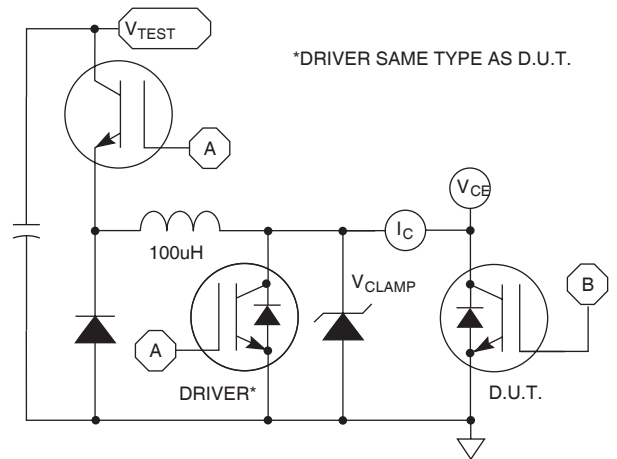

Figure 24, E_{ON1} Test Circuit
- ① Repetitive Rating: Pulse width limited by maximum junction temperature.
- ② For Combi devices, I_{oes} includes both IGBT and FRED leakages
- ③ See MIL-STD-750 Method 3471.
- ④ E_{on1} is the clamped inductive turn-on-energy of the IGBT only, without the effect of a commutating diode reverse recovery current adding to the IGBT turn-on loss. (See Figure 24.)